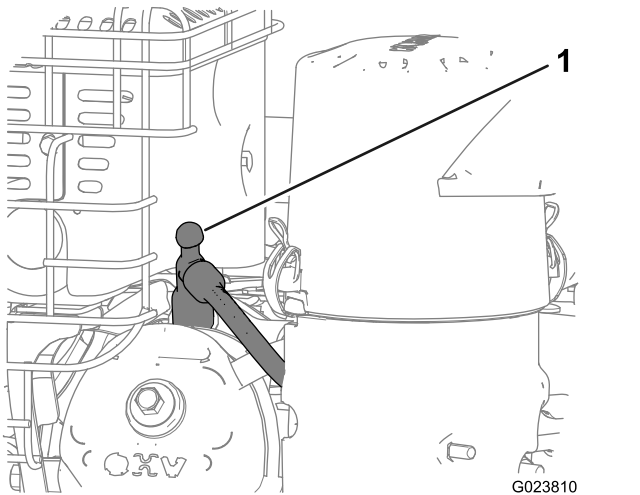

Figure 29
4. Disconnect the spark-plug wire from the spark plug and keep the wire away from the plug, to prevent accidental starting (Figure 29).